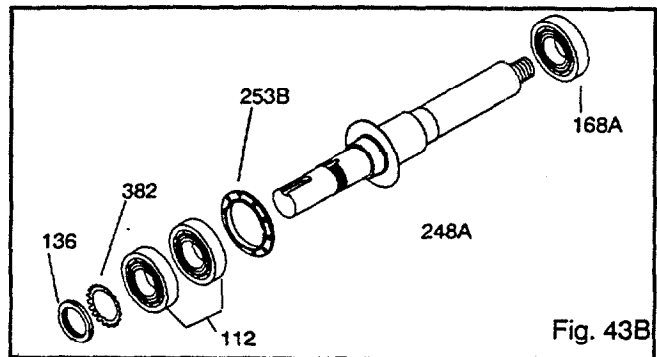

Fig. 43B
7. Remove inboard bearing (168A) (Fig. 43B).
8. Remove bearing locknut (136) and bearing lockwasher (382).